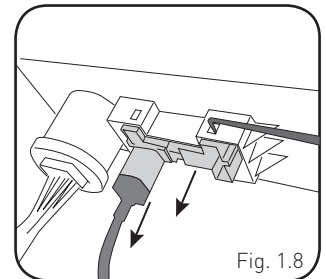

Fig. 1.8
- Using a long pick tool press down on the four (4) clips securing the USB housing in place (two on top and two on bottom). Remove and disconnect USB plug. (Fig. 1.8)